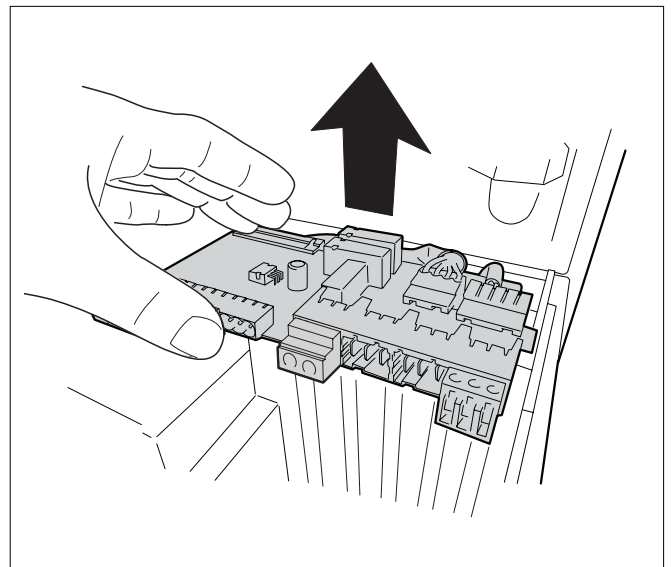

Fig. 97 Removing the external connection board
- Remove the external connection board (see fig. 97).